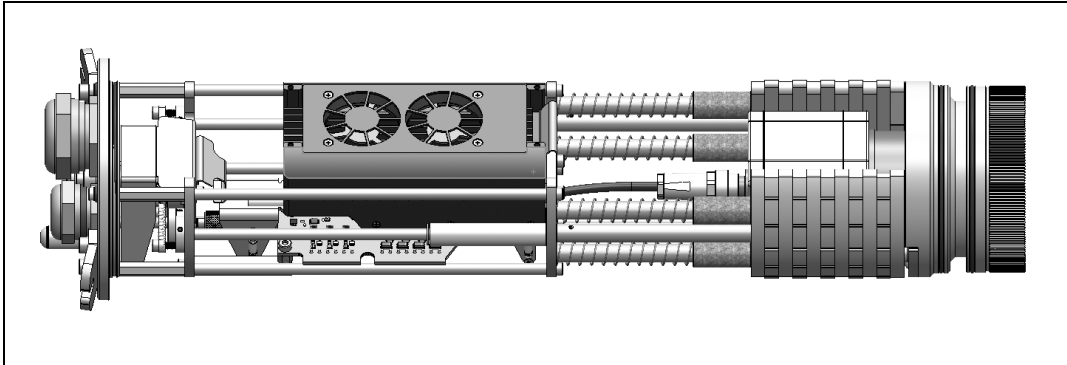

Figure 31: Chassis with TIM camera, Industrial PIF and TIM NetBox
7. Then connect the TIM camera and the TIM NetBox with the provided USB cable and the Industrial PIF with the camera. Combine the network connector and the TIM NetBox (**Figure 31**).